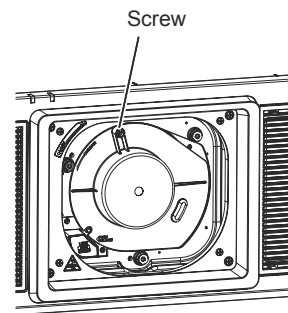

Fig. 3
- 4) **Secure the lens hole cover. (Fig. 3)**